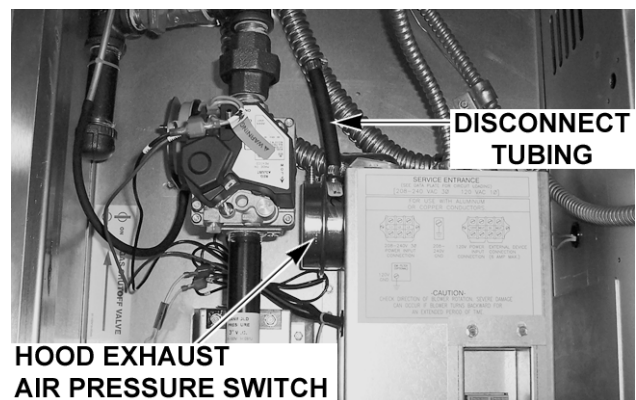

Fig. 21
2. Verify hood exhaust air pressure switch (Fig. 21) operation.